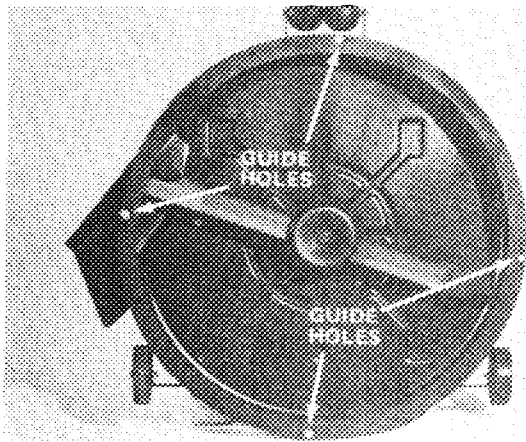
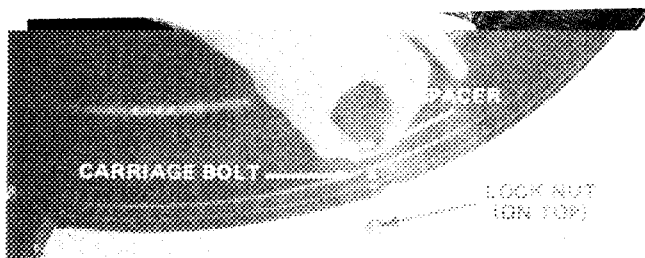

Figure 1.
Figure 2
1. Align deck ring guide holes (Fig. 1). and secure to deck with (4) carriage bolts, spacers and lock-nuts (Fig. 2).
3. Secure ends of deck rings with (8) carriage bolts, spacers, and locknuts (Fig. 2).